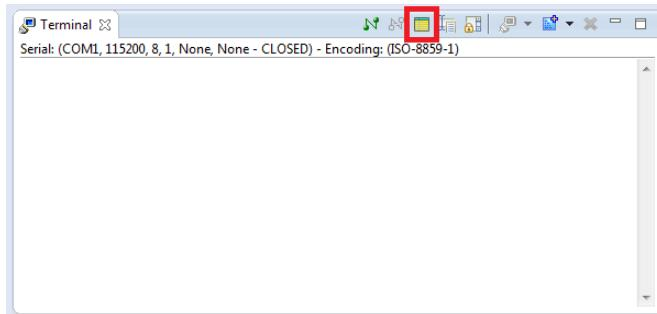

Figure 13-13. ARM DS-5 Serial Terminal
64. Although we can continue to use the “minicom” program as we previously did in Figure 13-9, we will use the built-in serial terminal available in *ARM DS-5* to have all development windows in one area. Go to “Window > Show View > Other... > Terminal > Terminal” to open *ARM DS-5*’s the built-in serial terminal. You should see the terminal shown in Figure 13-13.